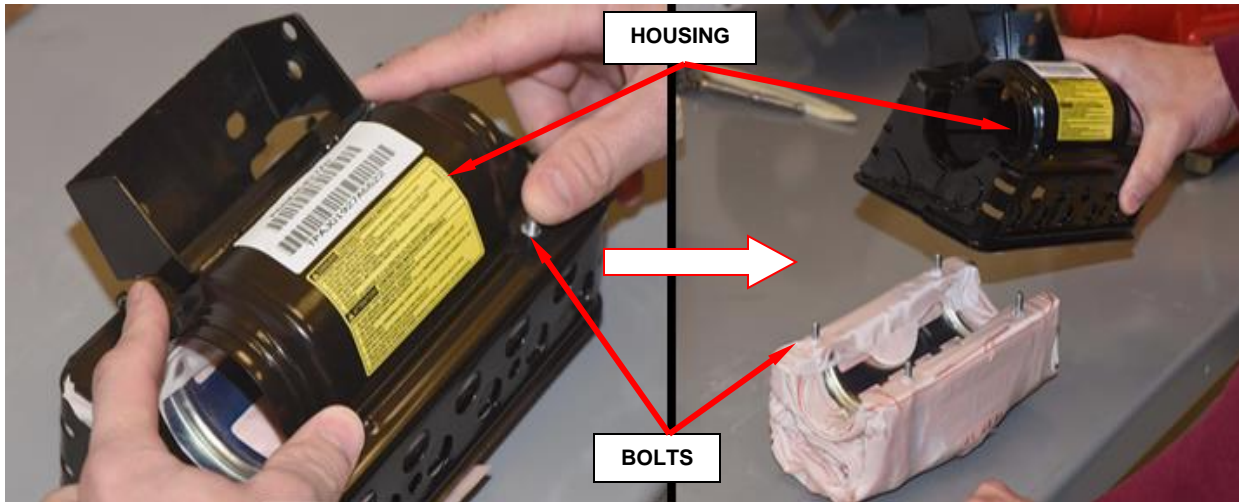

Figure 36 - Remove Airbag Cushion from Housing
- e. Remove airbag cushion from housing by applying pressure to the bolts, set cushion aside (Figure 36).